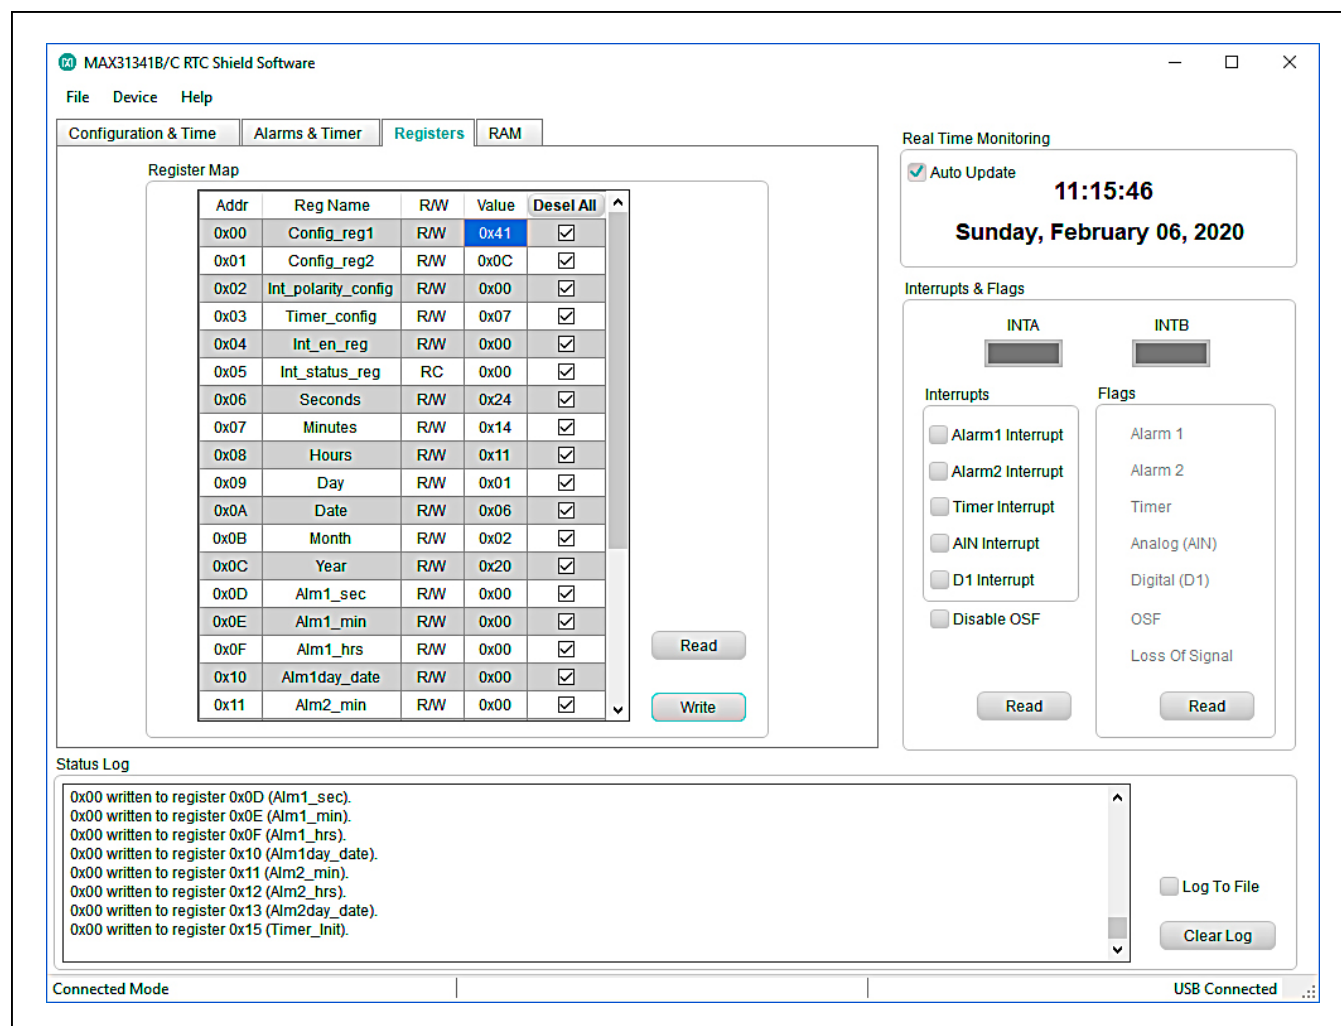

Figure 5. MAX31341B/C RTC Shield Software—Registers Tab
- 3) On the **Registers** tab (Figure 5), in the **Register Map** section, press the **Read** button and make sure that the value of register 0 (Config\_reg1) shows 0x41. Otherwise, set it to 0x41 and press the **Write** button. Now the reading in the picometer is the current from the MAX31341B or MAX31341C only. It should be around 210nA.